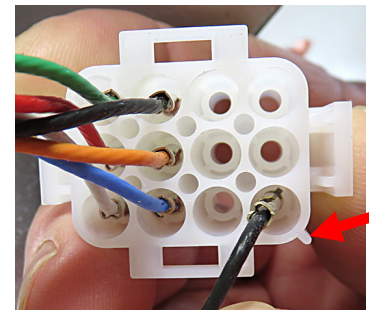

Figure 18
21. Insert the black wire of the new cable assembly into Pin 1 of the plug removed in step 18 (see Figure 18 and 19). Pin 1 is located by looking for the protruding ridge which is adjacent to Pin 1.